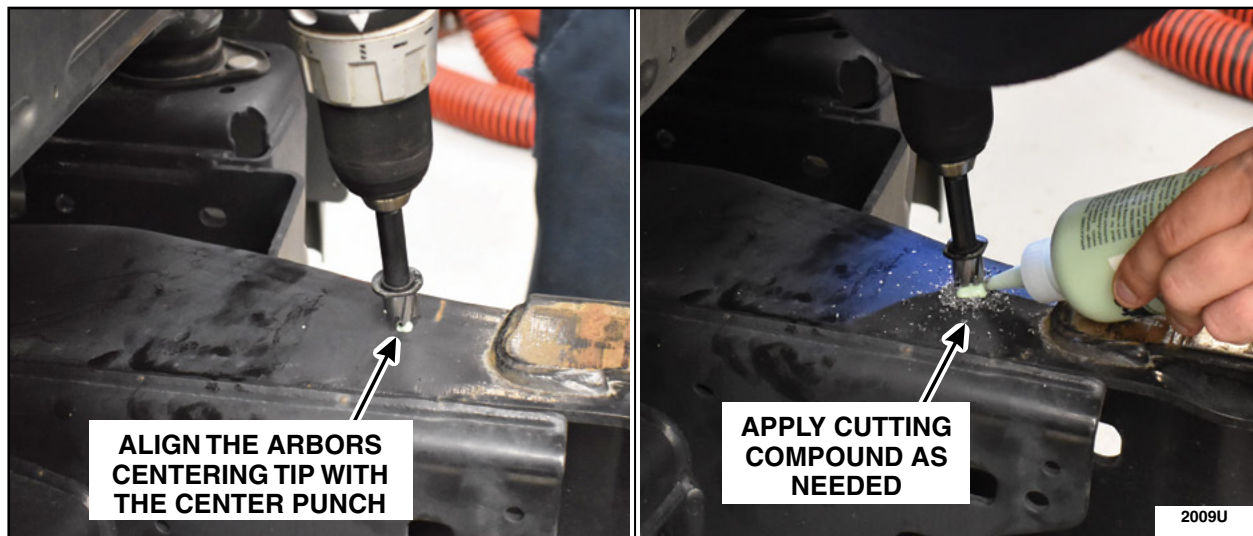

FIGURE 14
13. Using a drill (set to the bits recommended drill speed) and a 15mm Rotabroach bit, such as the Hougen 15mm x 25mm Deep High Speed Steel Annular Cutter and a Rotabroach Arbor, drill the two (2) holes that were just center punched in the previous Steps. See Figure 14.